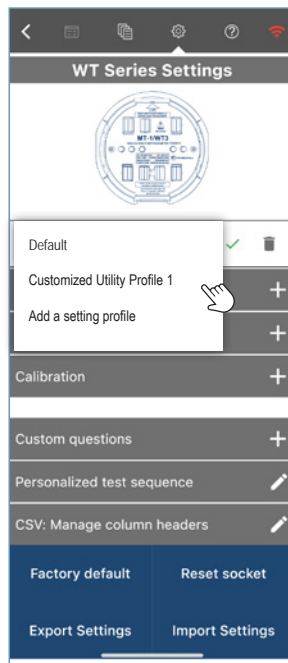

Figure 2
- Select a profile:** Tap the drop-down menu and select the name of the needed profile (Figure 2).